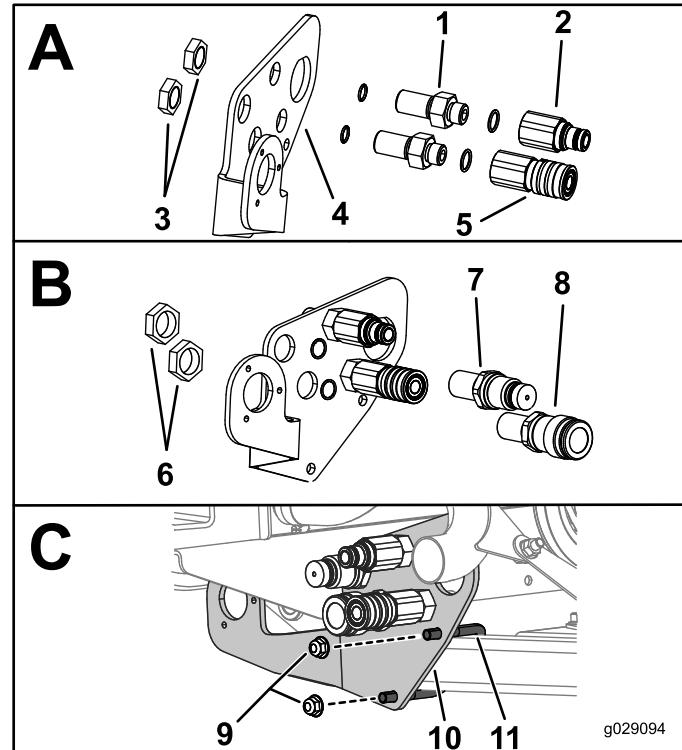

Figure 17
1. Install the fittings onto the bulkhead plate as shown in Figure 17.
2. Loosely secure the bulkhead plate to the frame using the U-bolt and 2 flange nuts (3/8 inch) as shown in Box C of Figure 17.